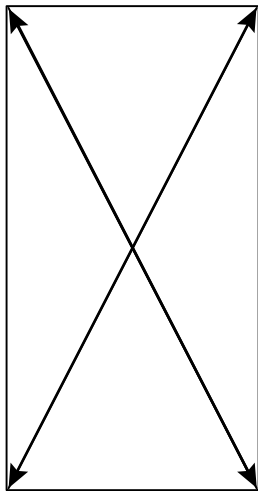

FIGURE 6
2. Door frame shall be installed square and plumb. FIGURE 6 & 7, below.